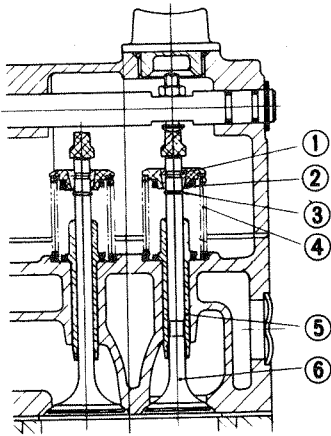
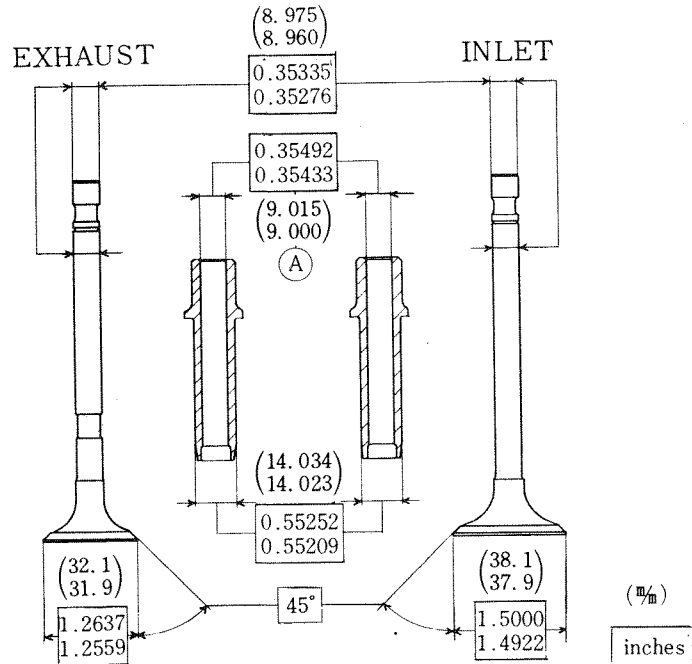

Fig. 15 Longitudinal cross-section of valve
Fig. 16 Standard dimensions of valve and Valve Guide
- ② The part which has the role of sending in the necessary air for combustion of fuel at the right time are the valve timing and air cleaner.
- ⓐ The valves must be assembled in correct manner to the cylinder head as shown in Fig. 15. The standard dimensions of the valve and valve guide are as of the figures in Fig. 16. At the time of exchange of the valve guide, the inner dimensions must always be reamer finished to $0.3543 + 0.00059$ in. $\frac{58.5}{0}$ as shown in Fig. 16.